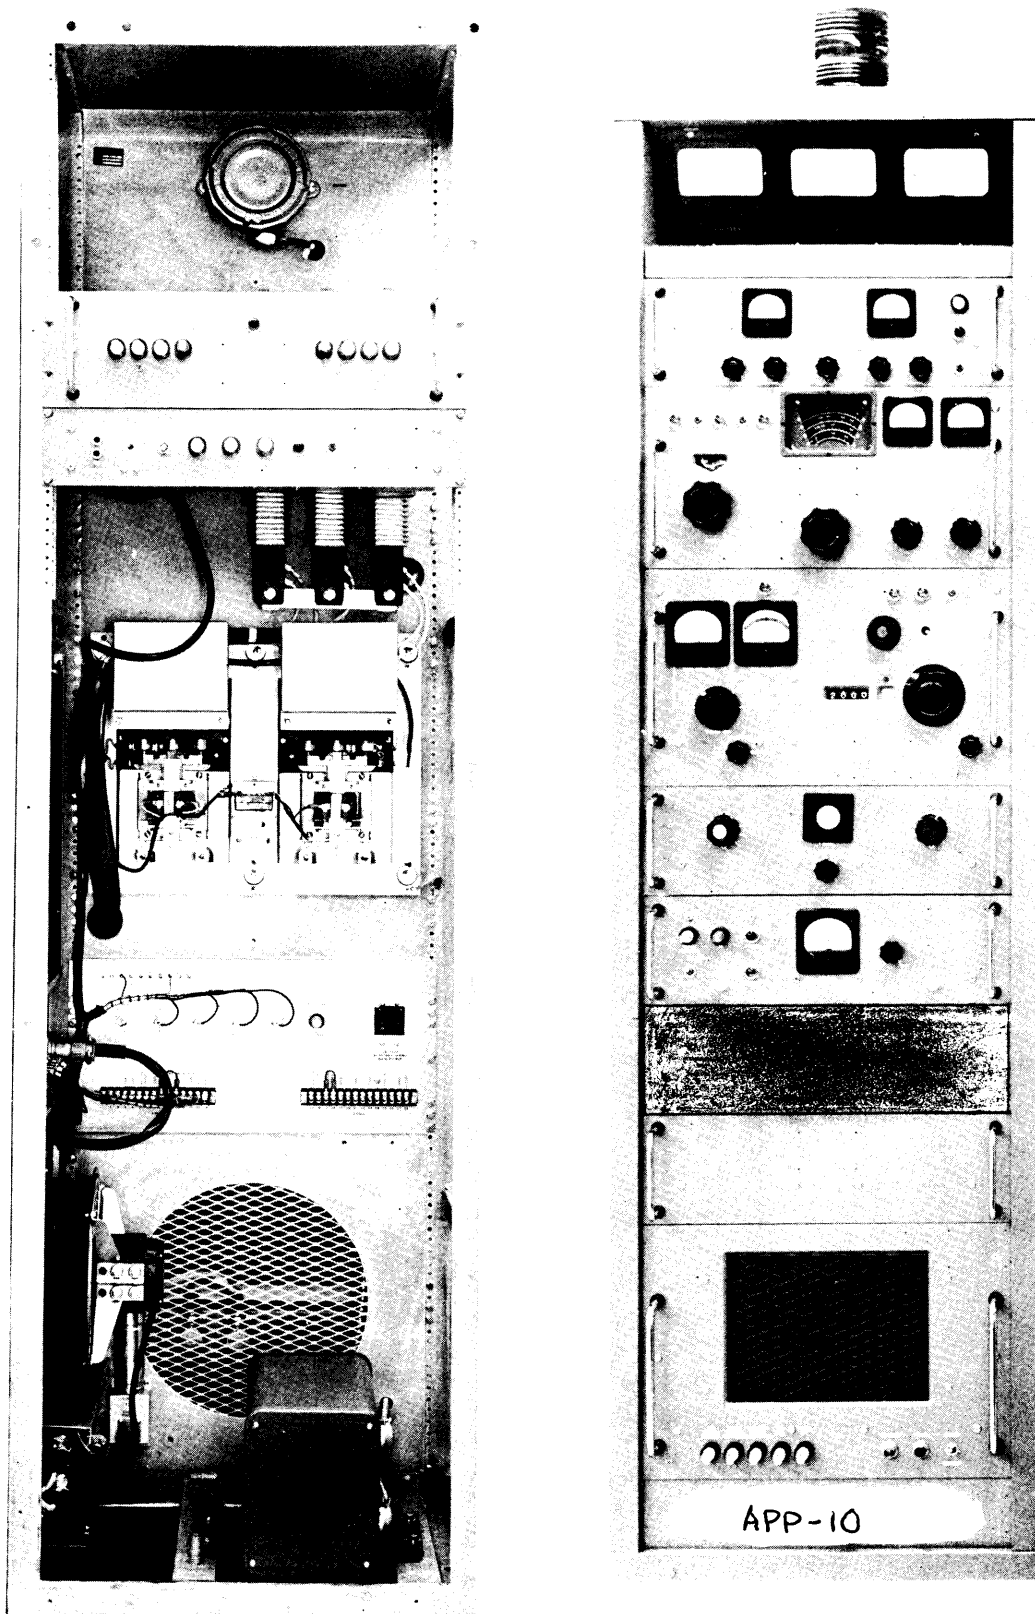

Figure 2-13. First Frame, Front and Rear View.
b. Install each drawer assembly in its designated position, figure 2-13, in first frame as it is unpacked. To install any drawer assembly, proceed as follows:
- (1) Untape or unstrap cable assemblies, cable retractors, and all other components secured to the inside of frame for shipment.
- (2) Pull center section of the drawer track out until it locks in an extended position.
- (3) Position slide mechanisms of drawer in tracks; and, ease drawer into track until lock buttons engage holes in tracks
- (4) Where applicable, pull tilt handles on sides of drawer and position drawer vertically.
- e. Position lamp socket assembly on cover top, above first frame (see figure 2-13).